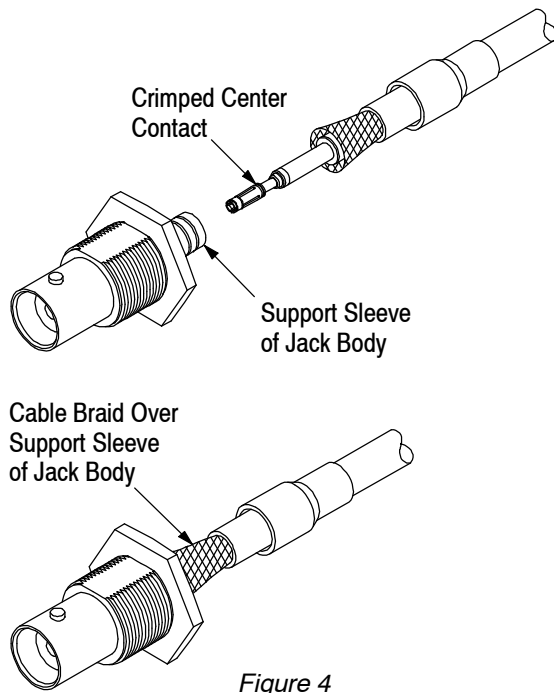

Figure 4
4. Crimp the center contact onto the center conductor of the cable using the appropriate die assembly. Refer to Figure 4.
5. Insert the center contact into the jack body until the center contact snaps into place, making sure that the cable braid is positioned over the support sleeve of the jack body. See Figure 4. Gently pull back on the cable to ensure that the center contact is held in place by the internal locking feature.